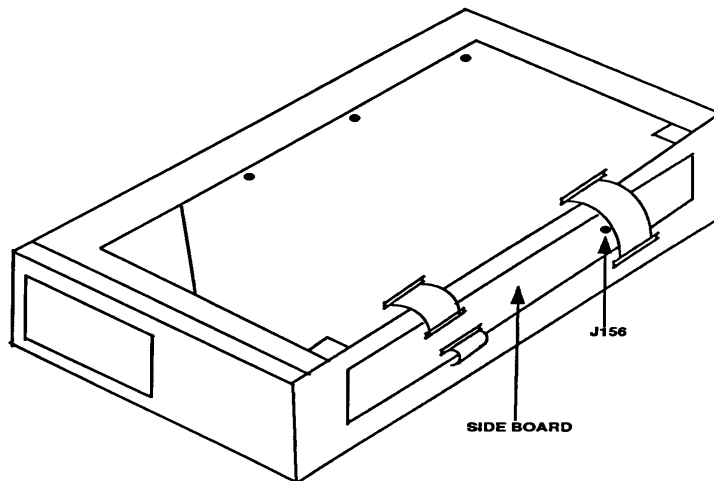

Figure 1. Test instrument jumper location (cabinet removed).
- a. Press **POWER-ON-OFF** pushbutton to **OFF** (out) and remove the cabinet from test instrument. Remove jumper J156 (fig. 1) from P156 on side board (located on right side of instrument near rear).
With jumper J156 (fig. 1) removed, calibration constants stored in TI firmware will be lost when power is applied and must be reestablished by performing this procedure completely.
**q.** Perform (1) through (3) below to prevent calibration constants from being lost.
(1) Press TI **POWER-ON-OFF** switch to **OFF** (out) and remove cabinet from TI.
(2) Replace jumper (J156) (fig. 1) on P156 on side board (located on right side of instrument near rear panel).
(3) Replace cabinet on TI.